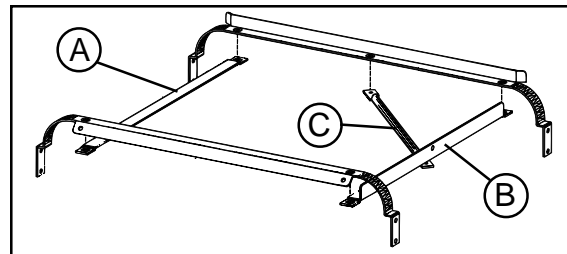

Figure 3b
1. Remove the front rack guide (A). Discard the square spacers.
2. Move front rack guide (A) to the left side of the rack tracks. (See Fig. 3b) Use existing hardware.
3. Unbolt the track (B) and rack support rod (C).
5. Bolt (B) and (C) as shown in Fig. 3b.